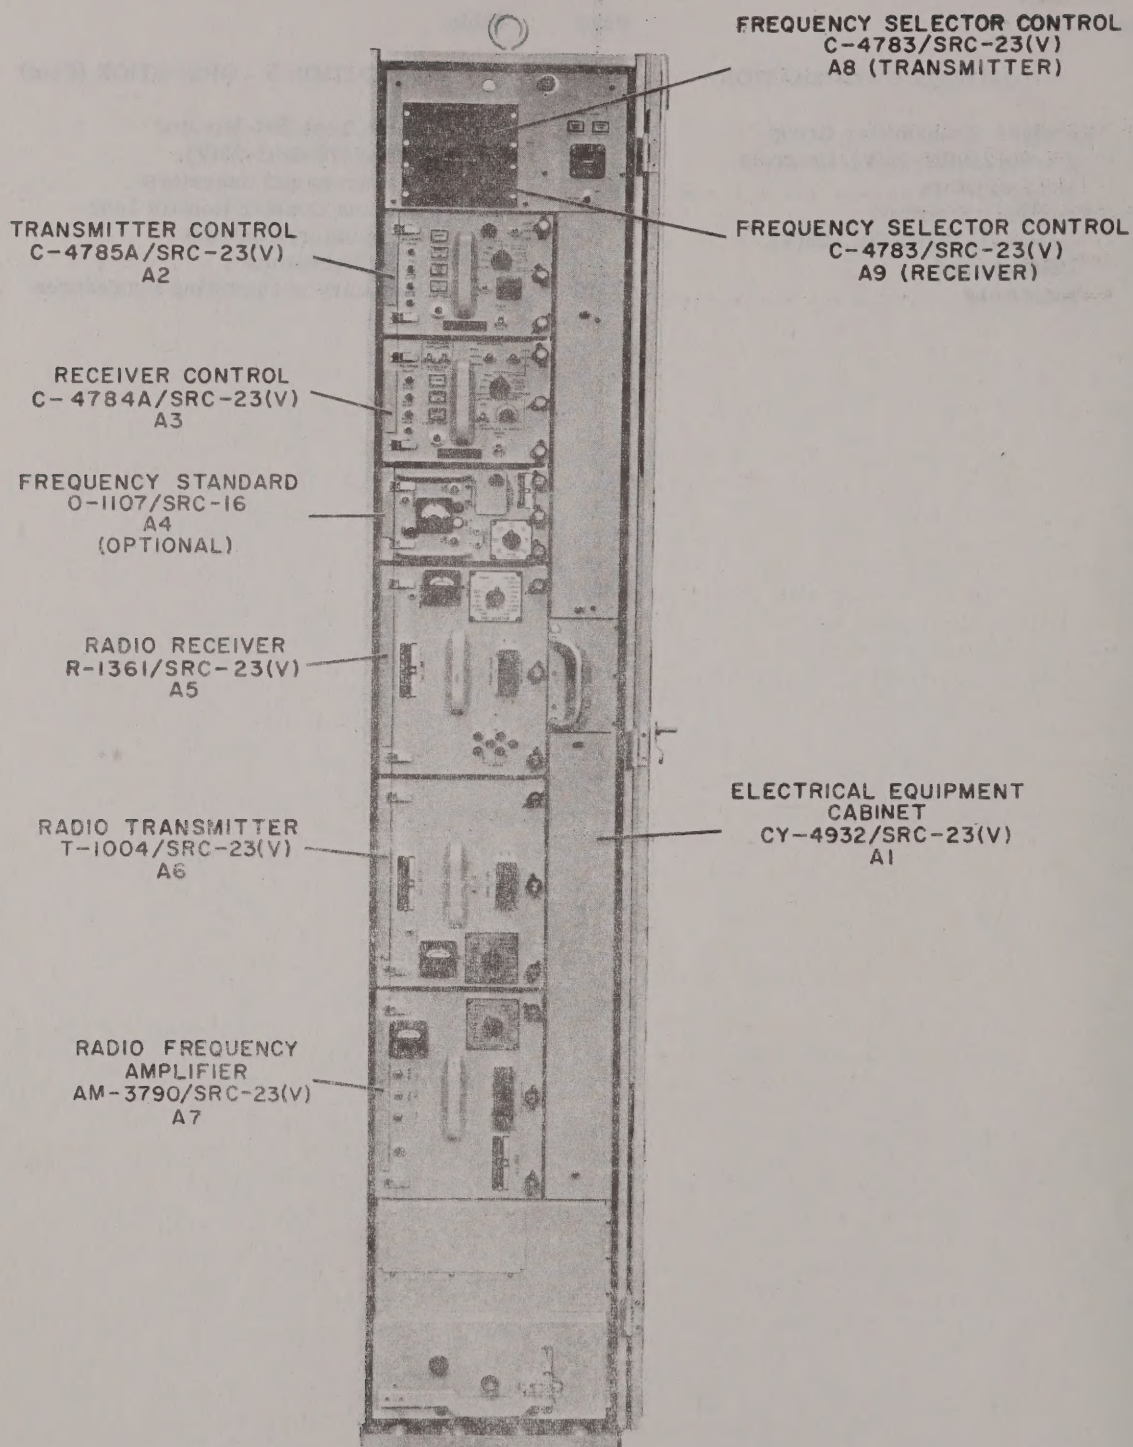
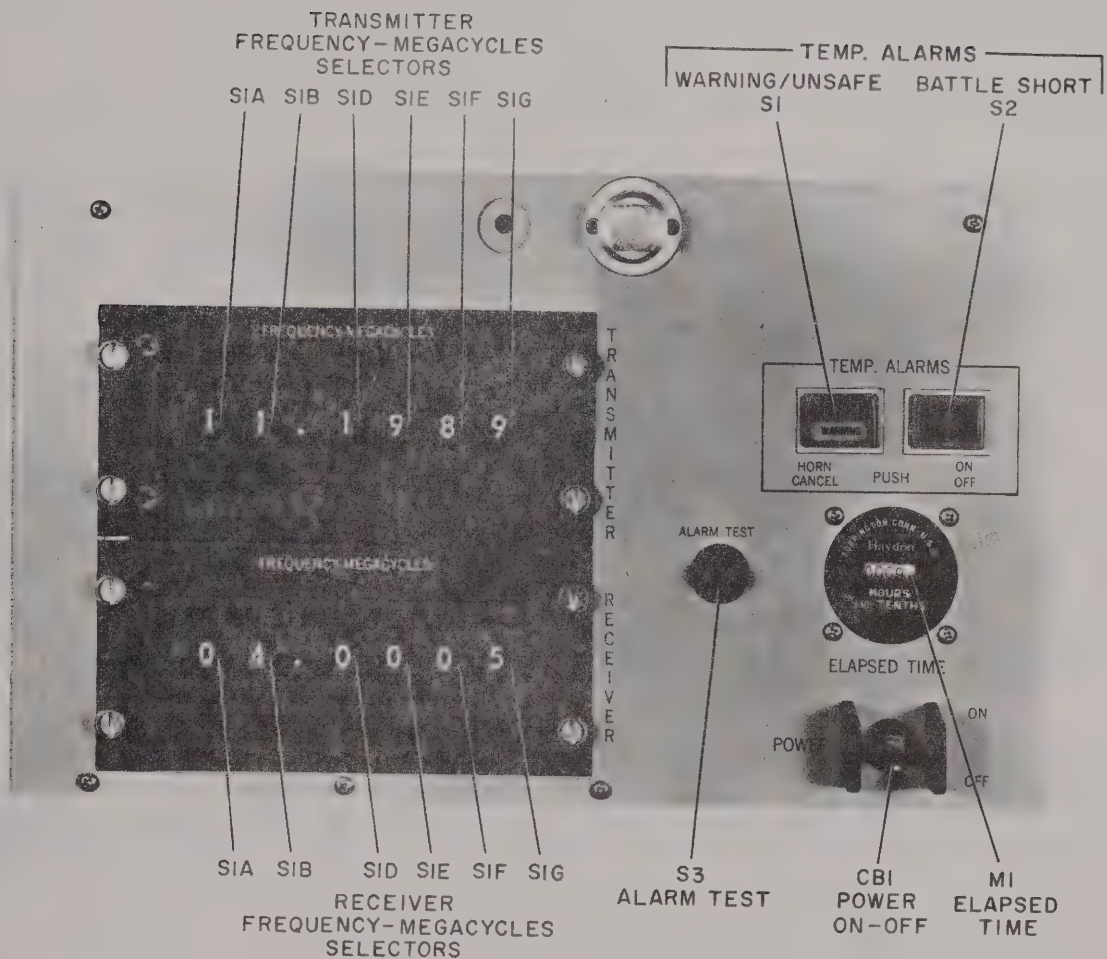

Figure 3-1. Receiver-Transmitter Group OA-8012/SRC-23(V), Location of Units
Figure 3-2. Electrical Equipment Cabinet CY-4932/SRC-23(V), Unit A1, and Frequency Selector Controls C-4783/SRC-23(V), Units A8 and A9, Controls and Indicators
The functions of controls and indicators on units which provide local or remote control of Receiver-Transmitter Group OA-8012/SRC-23(V) are listed in table 3-1. Functions of operating controls and indicators located on units which are part of Frequency Standard Group OA-4792/SRC-23(V) are listed in table 3-2. Functions of Radio Test Set-Monitor TS-2476/SRC-23(V) operating controls and indicators are listed in table 3-3. Figure 3-1 shows the location of units which are part of Receiver-Transmitter OA-8012/SRC-23(V). Figures 3-2 through 3-13 show control and indicator locations.
ELECTRICAL EQUIPMENT CABINET CY-4932/SRC-23(V), UNIT A1 (figure 3-2)
FREQUENCY STANDARD O-1107/SRC-16, UNIT A4 (figure 3-1).
FREQUENCY SELECTOR CONTROLS C-4783/SRC-23(V), UNITS A8 AND A9 (figure 3-2)